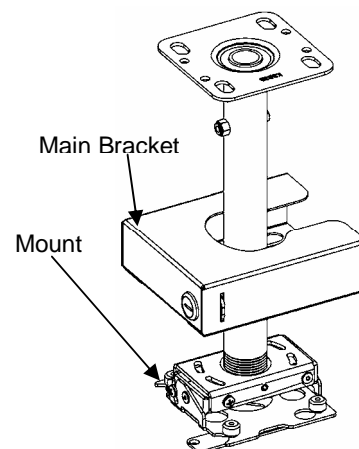

Figure 3. Position Main Bracket Above Mount
2. Position Main Bracket above projector mount (see Figure 3).